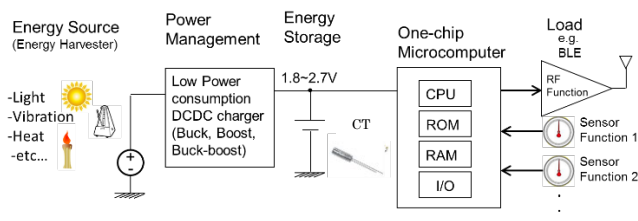

Fig. 1: Block diagram of EH application
Murata's CT04120 is new type of Lithium ion secondary battery in which Lithium titanate is used as negative active material. CT04120 has the following four outstanding characteristics which are quite suitable to energy harvesting (EH) applications as shown in Fig. 1.
- ① **Long life for maintenance-free**
- ② **Low loss (low self-leakage)**
- ③ **High rate discharge to drive RF function directly**
- ④ **Quick-ready from initial installation (charging start)**